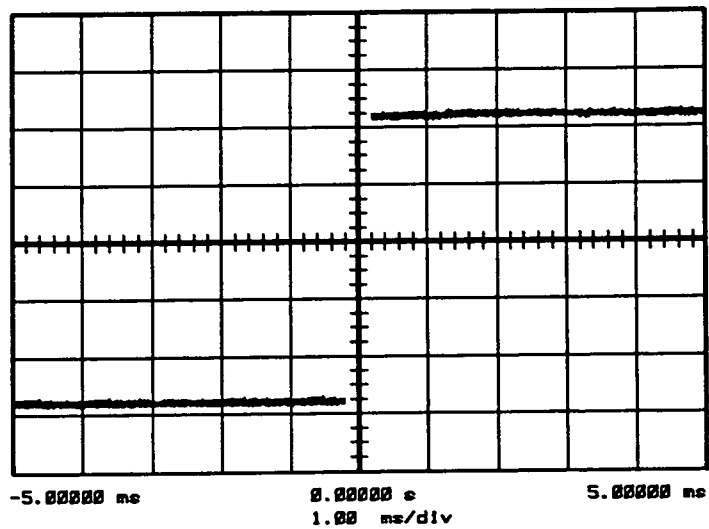

Figure 2-54. Pulse Centered
8. The adjustments and waveforms are shown in figures 2-54 through 2-59.